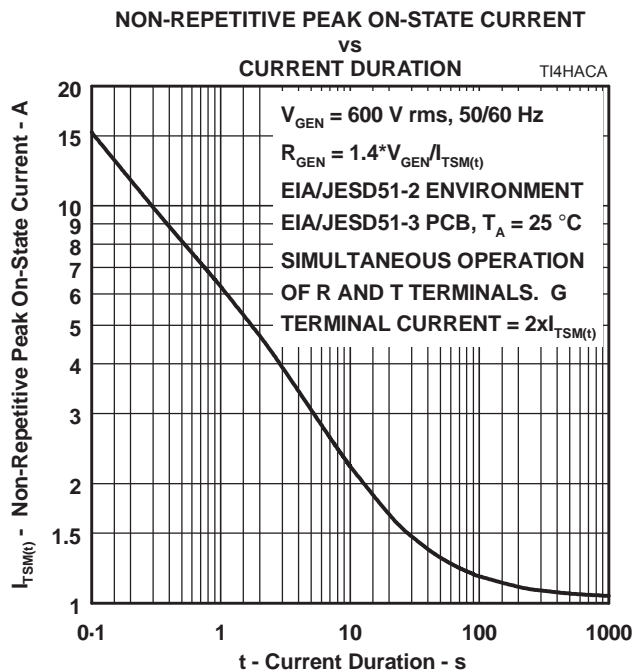

Figure 8.
- EIA/JESD51-2 environment and EIA/JESD51-3 PCB with standard footprint dimensions connected with 5 A rated printed wiring track widths. See Figure 8 for the current ratings at other durations. Figure 8 shows the R and T terminal current rating for simultaneous operation. In this condition, the G terminal current will be  $2 \times I_{TSM(t)}$ , the sum of the R and T terminal currents. Derate current values at -0.61 %/ $^\circ\text{C}$  for ambient temperatures above 25  $^\circ\text{C}$ .
The protector can withstand the G return currents applied for times not exceeding those shown in Figure 8. Currents that exceed these times must be terminated or reduced to avoid protector failure. Fuses, PTC (Positive Temperature Coefficient) resistors and fusible resistors are overcurrent protection devices which can be used to reduce the current flow. Protective fuses may range from a few hundred milliamperes to one ampere. In some cases, it may be necessary to add some extra series resistance to prevent the fuse opening during impulse testing. The current versus time characteristic of the overcurrent protector must be below the line shown in Figure 8. In some cases, there may be a further time limit imposed by the test standard (e.g. UL 1459 wiring simulator failure).